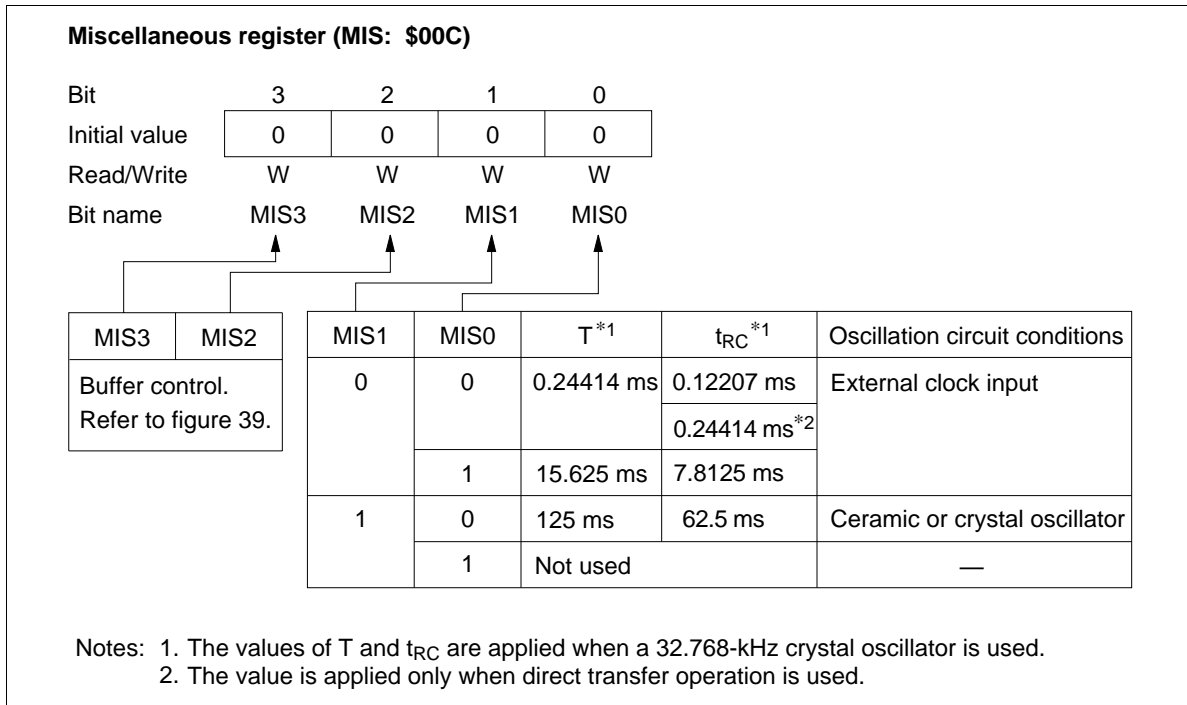

Figure 18 Miscellaneous Register (MIS)
Interrupt Frame: In watch and subactive modes, ϕ_{CLK} is applied to timer A and the \overline{INT}_0 and $\overline{WU}_0 - \overline{WU}_7$ circuits. Prescaler W and timer A operate as the time-base and generate the timing clock for the interrupt frame. Three interrupt frame lengths (T) can be selected by setting the miscellaneous register (MIS: \$00C) (figure 18).